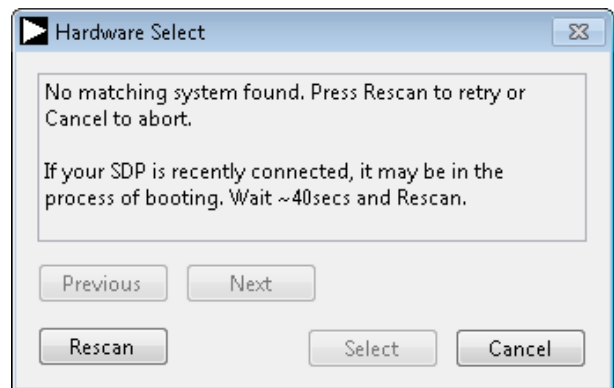

Figure 15. **SDP-H1** Board Not Connected to the USB Port Error
- The software automatically seeks to find the hardware connected; therefore, when no hardware is connected, it displays a connectivity error (see Figure 15) when the software is launched. Connect the evaluation board to the **SDP-H1** and connect the **SDP-H1** to the USB port of the PC, wait a few seconds, click **Rescan**, and then follow the instructions (see Figure 15).